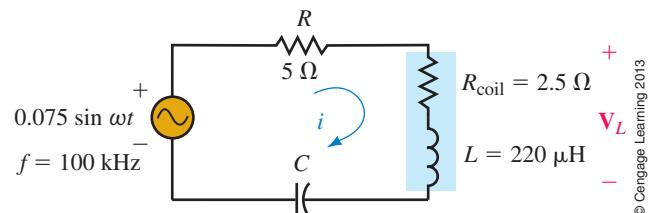

FIGURE 21-49
- Refer to the circuit of Figure 21-49.